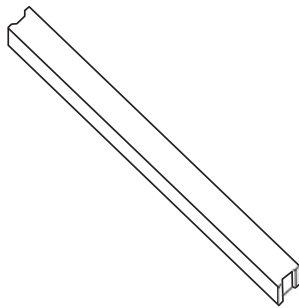

Figure.1 Wood Supporting Frame
- Unloading with a crane: Affix the lifting belt in the wood supporting frame buckle (Fig. 1, 2). It is allowed only to lift one pallet at a time. Before lifting, it is necessary to confirm whether the pallet and paper box are damaged and ensure that the lifting rope is robust and firm. When being lifted close to the ground, the paper box will be gently placed in a relatively flat position on the project site by two people, one on each side.